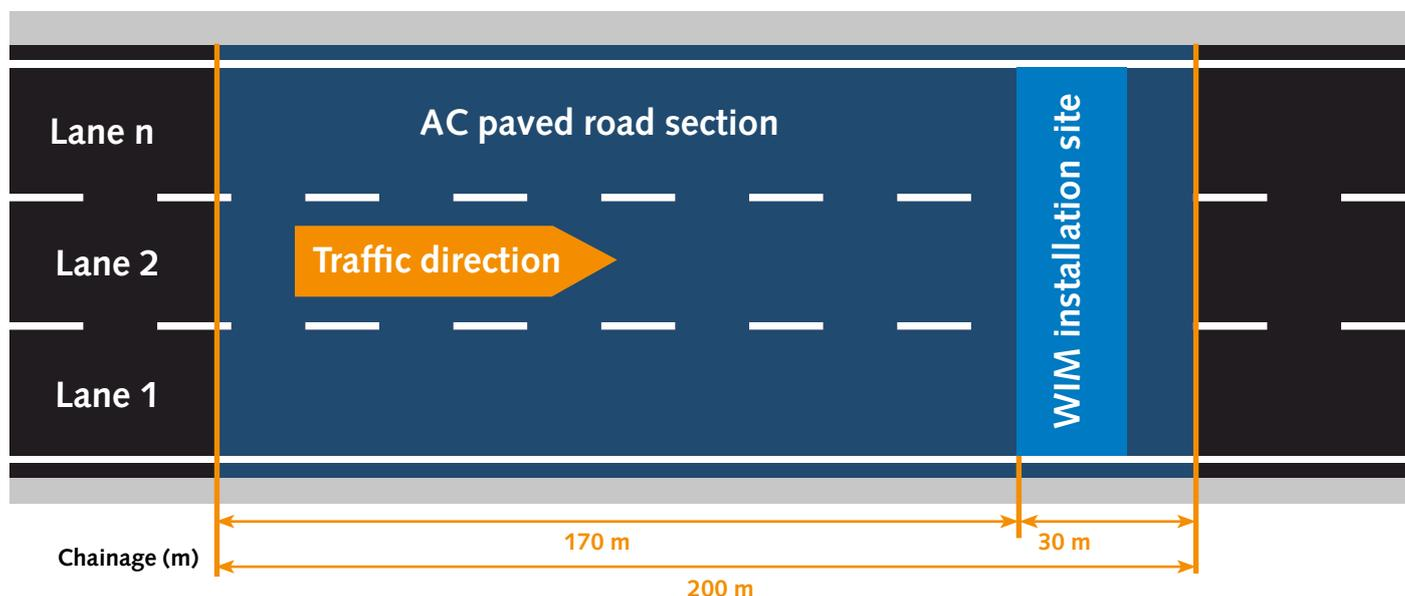

Fig. 2: AC pavement road length recommendation
- FWD test section as per Figure 2